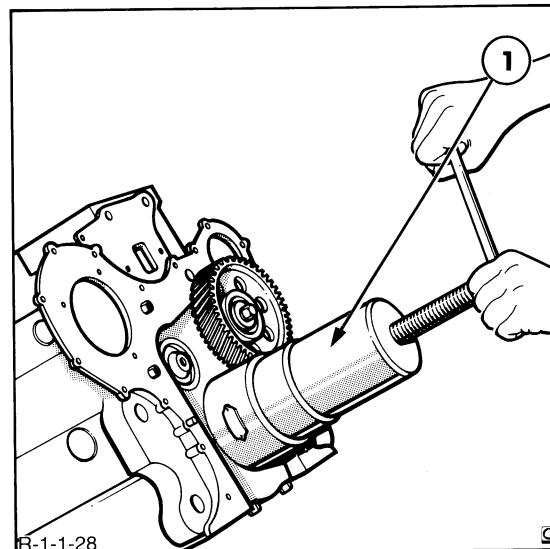

Figure 28
13. Remove the crankshaft gear using Tool No. CPT 6040B or 2134, Figure 28.